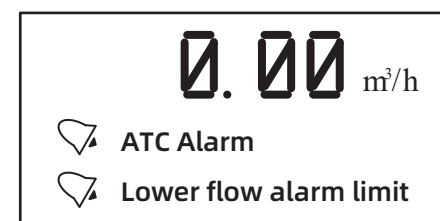

Figure 36
2. When an alarm occurs, the alarm message (containing empty pipe alarm, upper flow limit alarm, lower flow limit alarm, pulse over limit alarm and upper flow limit) screen has a cyclic interval of 5s and a duration of 2s. The message occupies flow display rows 2 and 3 in the display screen as shown in Figure 36 below.